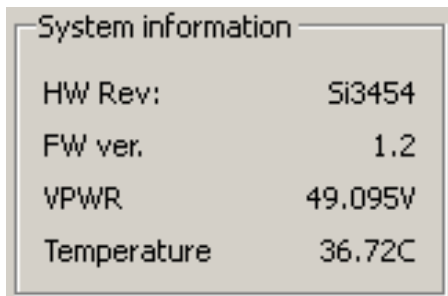

Figure 11. Device Information Box
**Note:** The example shown in Figure 11 is representative but may not contain the same data as that displayed with your board.